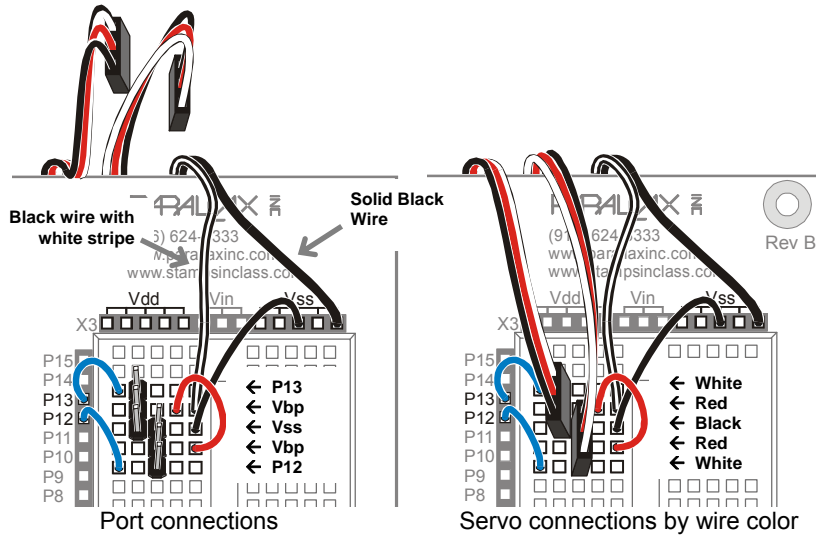

Figure 2-18
- ✓ Build the servo ports shown on the left side of Figure 2-18.
- ✓ Connect the servo plugs to the male headers as shown on the right of Figure 2-18.